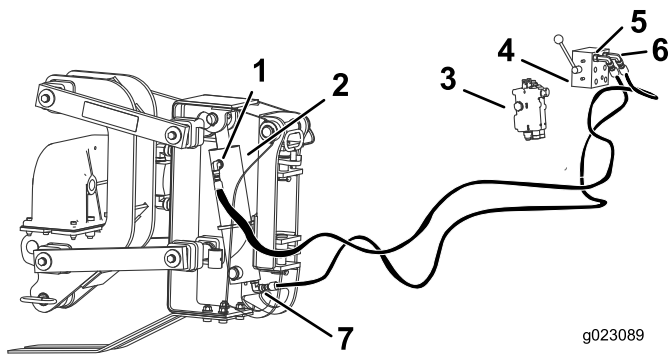

Figure 23
10. Remove the 2 plow hose ends that are connected to the attachment lift (Figure 23).
11. Connect the 21-inch hose to port C2 on the control valve to the hose connected to port A on the plow lift cylinder, located near the top of the plow lift cylinder (Figure 23).
13. Connect the 18-inch hose to port C1 on the control valve, located closest to the handle, to the hose connected to port B on the plow lift cylinder, located near the bottom of the plow lift cylinder (Figure 23); torque the hose fittings to 27 to 32 N-m (20 to 24 ft-lb).